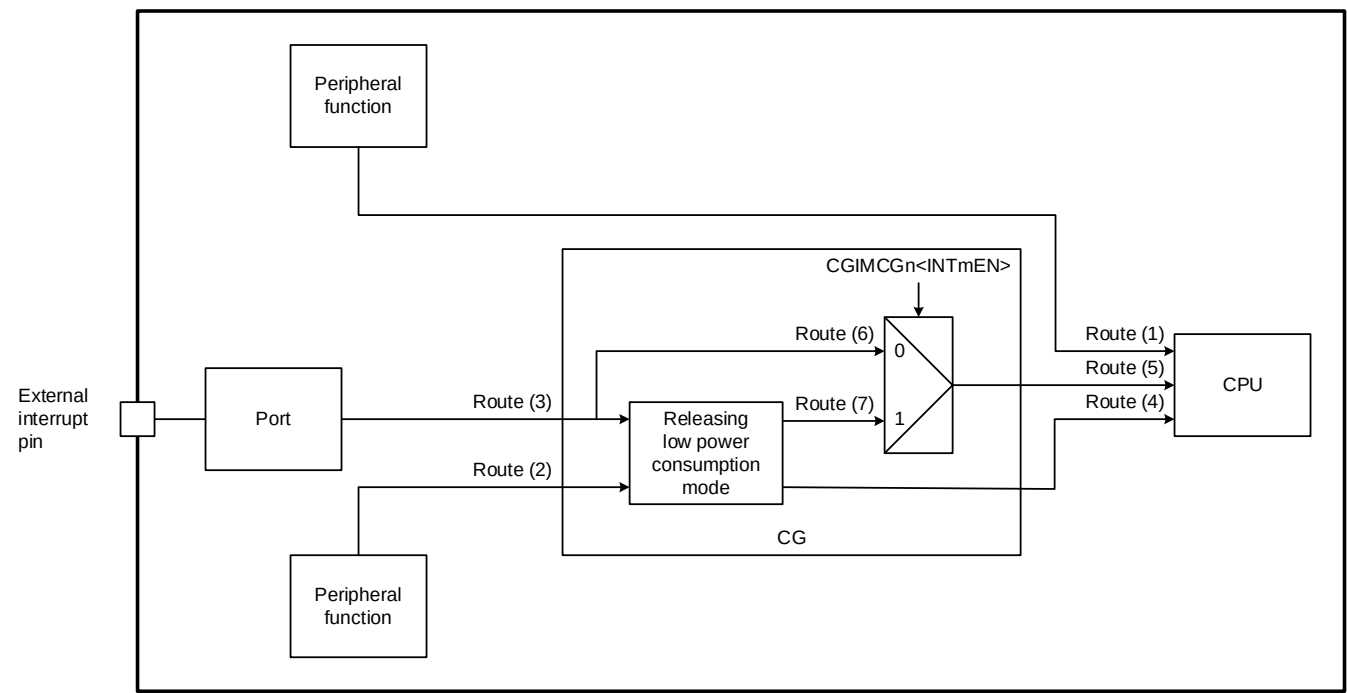

Figure 6.3 Interrupt Request Route
The interrupt request route is shown in Figure 6.3.
Also, When no using an external interrupt pin for releasing the low-power consumption mode (route (6) in "Figure 6.3 Interrupt Request Route"), the input signal from an external interrupt pin is directly input to CPU.